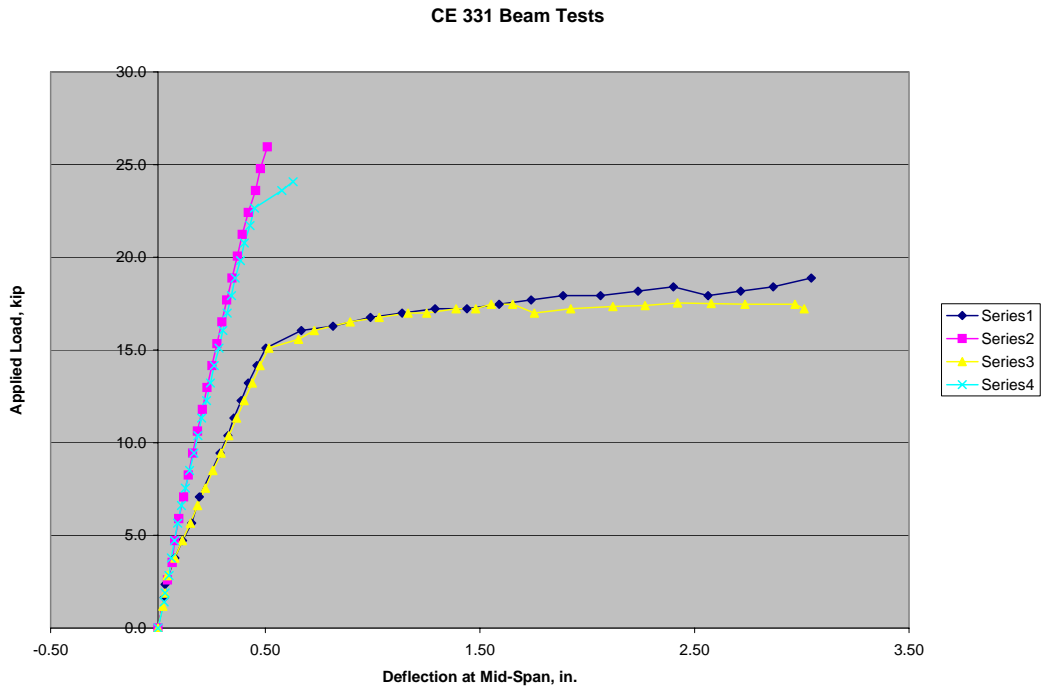
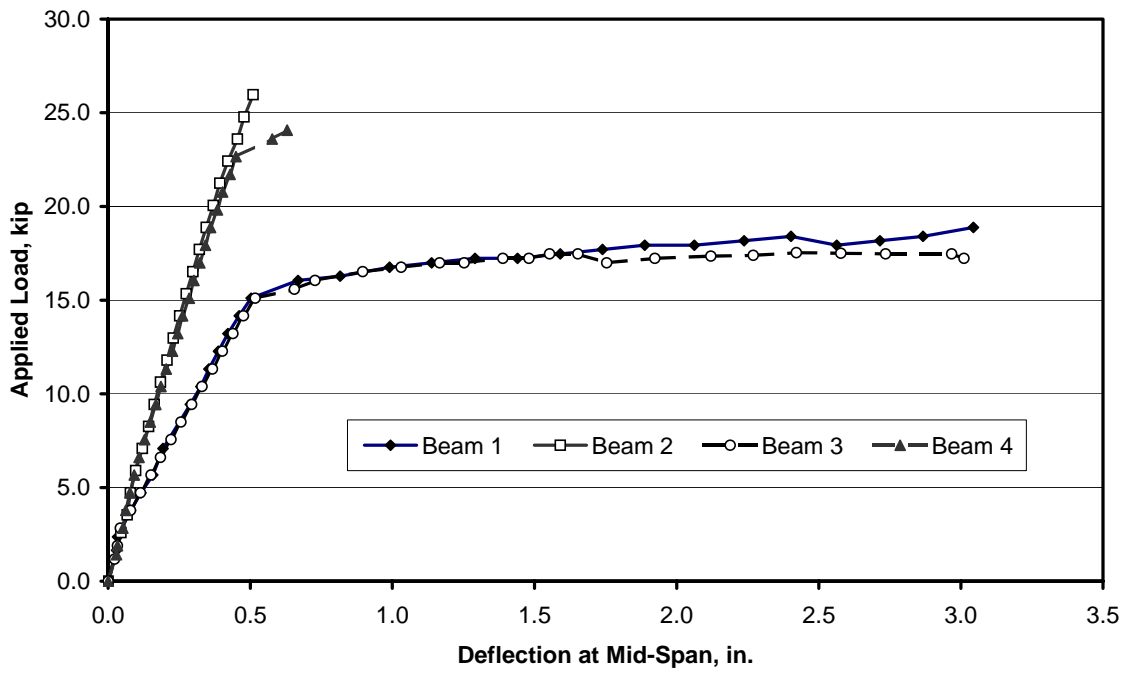

Figure 1: Example of Graph Generated Using the Default Parameters in Excel
Figure 2: Example of Graph Generated in Excel using Modified Parameters
- The default parameters used in Excel for generating graphs are not always the best choice for conveying technical information. Figures 1 and 2 contain the same data; however, Fig. 2 is much easier to read. Consider the following items when preparing laboratory reports:
- The gray background in Fig. 1 looks nice on the screen, but the technical information tends to be lost when the figure is printed in black and white. *Use a white background for all graphs.*